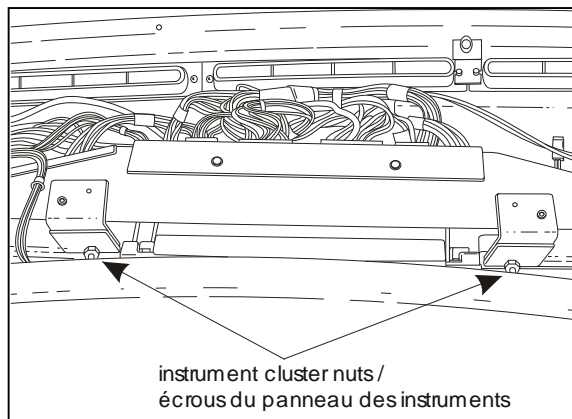

FIGURE 6
10. Remove the nuts fixing the instrument cluster to the dashboard housing (Figure 6).